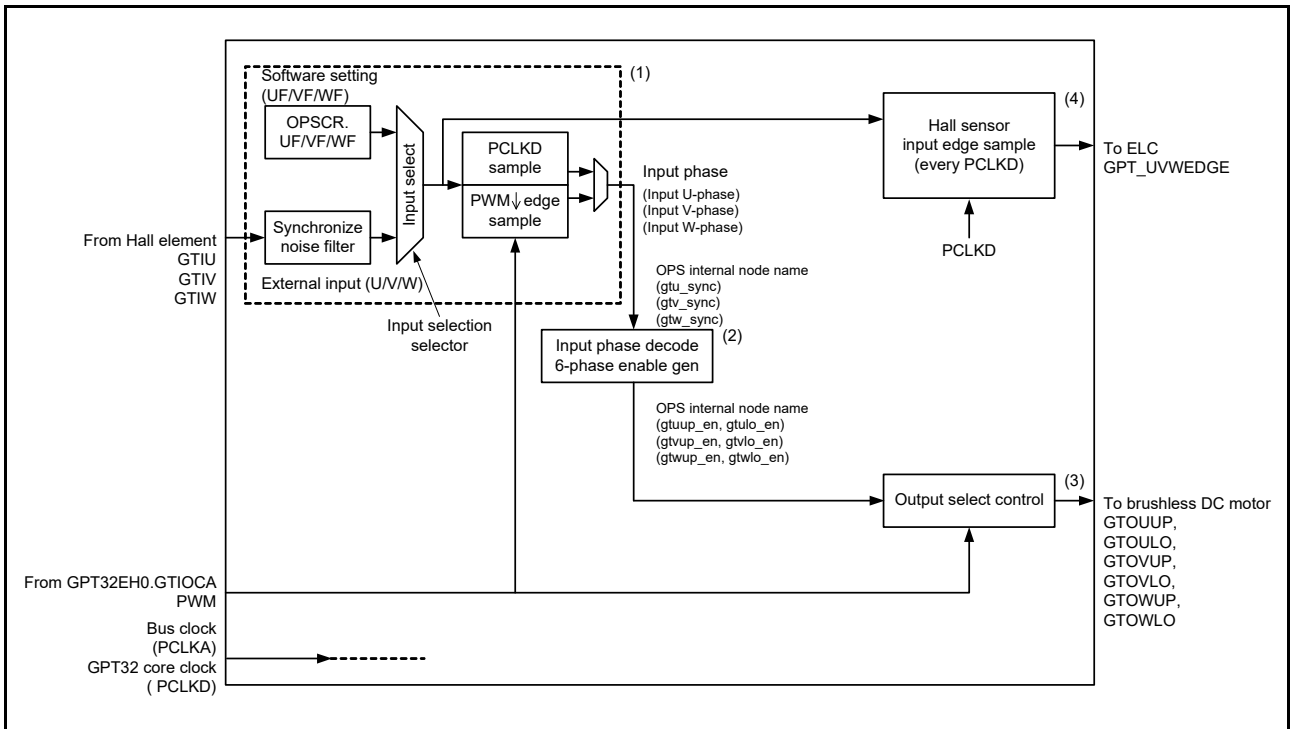

Figure 22.81 Conceptual diagram of GPT_OPS control flow
Figure 22.81 shows the conceptual diagram of GPT_OPS control flow.
In the GPT_ OPS control flow conceptual diagram shown in Figure 22.81, (1) is a selection of input phase from the software settings and external input by the OPSCR.FB bit.
In the GPT_OPS control flow conceptual diagram shown in Figure 22.81, (2) enables the 6-phase signals by decoding the input phase selected by the OPSCR.FB bit. The 6-phase enable signal is used for internal processing of GPT_OPS.
In the GPT_ OPS control flow conceptual diagram in Figure 22.81, (3) represents the selection of the output waveform by setting the OPSCR register bit.
In the GPT_OPS control flow conceptual diagram shown in Figure 22.81, (4) outputs the Hall sensor input signal edge to the ELC.